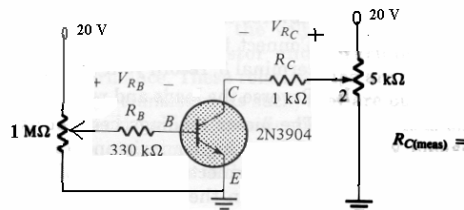

Figure 8-2 Circuit to determine the characteristics of a BJT.
Bipolar transistors are made of either silicon (Si) or germanium (Ge). Their structure consists of two layers of n -type material separated by a layer of p -type material (npn), or of two layers of p -material separated by a layer of n -material (pnp). In either case, the center layer forms the base of the transistor, while the external layers form the collector and the emitter of the transistor. It is this structure that determines the polarities of any voltages applied and the direction of the electron or conventional current flow. With regard to the latter, the arrow at the emitter terminal of the transistor symbol for either type of transistor points in the direction of conventional current flow and thus provides a useful reference (Fig. 8.2). One part of this experiment will demonstrate how you can determine the type of transistor, its material, and identify its three terminals.
- a. Construct the network of Fig. 8.2.